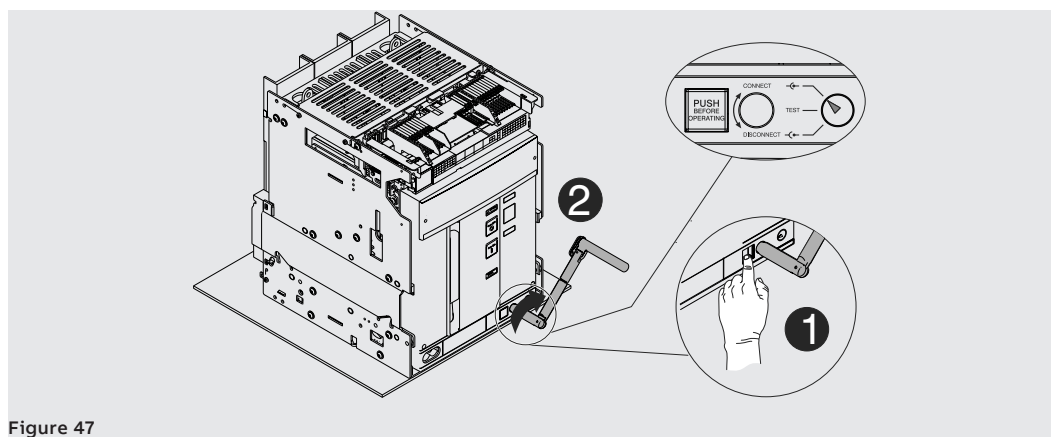

Figure 47
11. Press lock pushbutton and turn handle clockwise until pushbutton projects and signaling device indicates that circuit-breaker is in position **CONNECT**. See Figure 47.